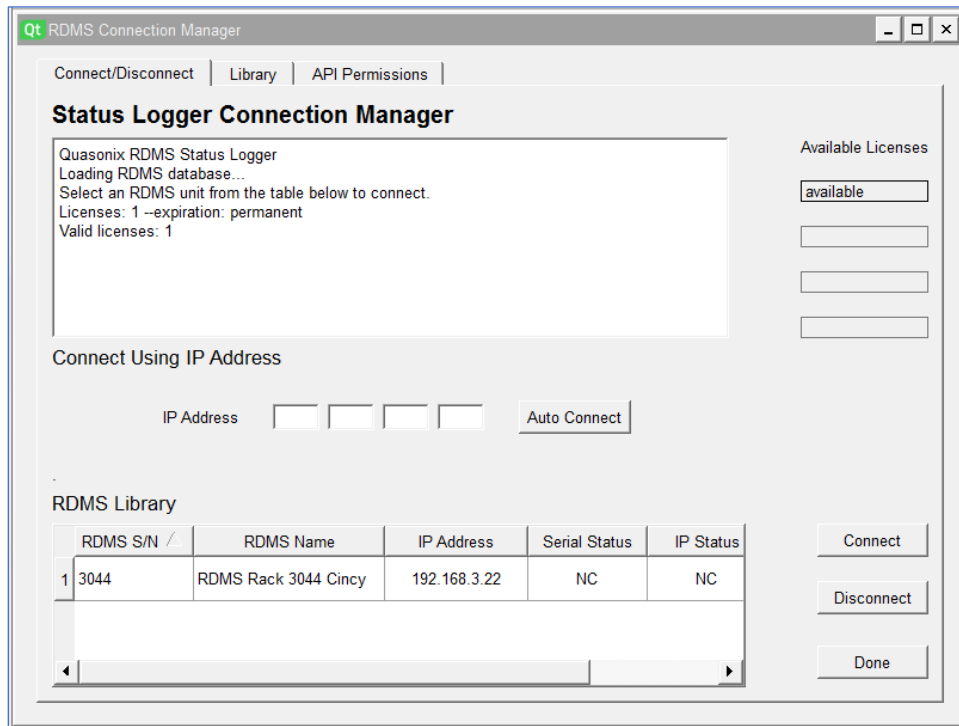

Figure 17: Connect/Disconnect Tab, RDMS Library Entry Added
7. Click on the Connect/Disconnect tab. The RDMS Library displays the new entry, as shown in Figure 17.